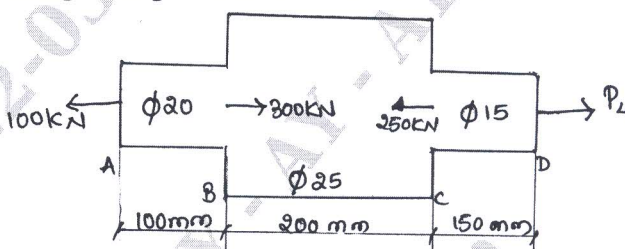

Fig.Q1(b)
- b. Determine the stresses in various segments of the circular bar shown in Fig.Q1(b). Compute the total Elongation taking Young's modulus to be 195 GPa. (12 Marks)